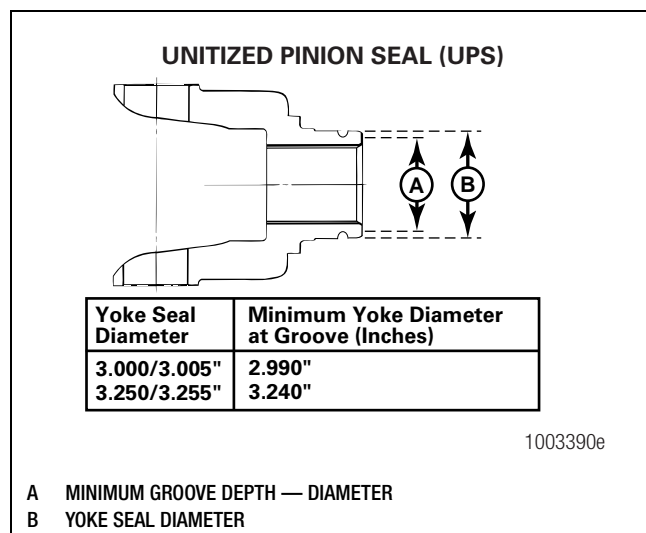

Figure 5.33
- **If you find grooves on the yoke:** Use calipers to measure the groove diameters. If any groove diameter measures less than the dimensions shown in Figure 5.33, replace the yoke.